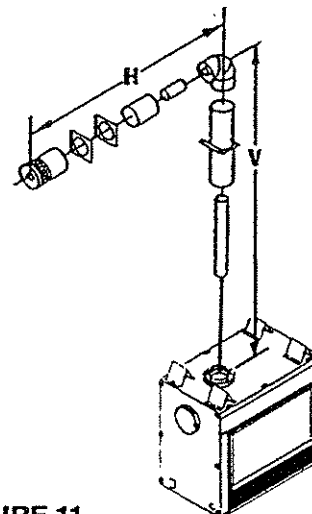

**FIGURE 10**
Figures 10 and 11 and Tables 4 and 5 show examples of possible installations using one (1) 90-degree elbow. Dimension V is listed as **MINIMUM** vertical dimensions and dimension H is listed as corresponding **MAXIMUM** horizontal dimensions.